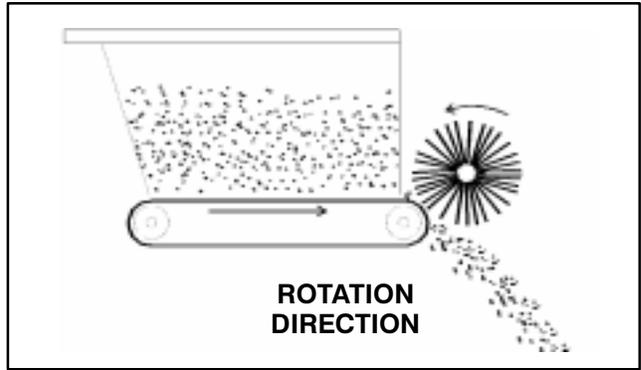

Figure 12
3. Start vehicle engine and test rotation of the conveyor and brush. Place remote hydraulics lever of Workman in the “run” position. The rotation should be as shown in figure 12. If the rotation is backwards the quick couplers need to be reversed.